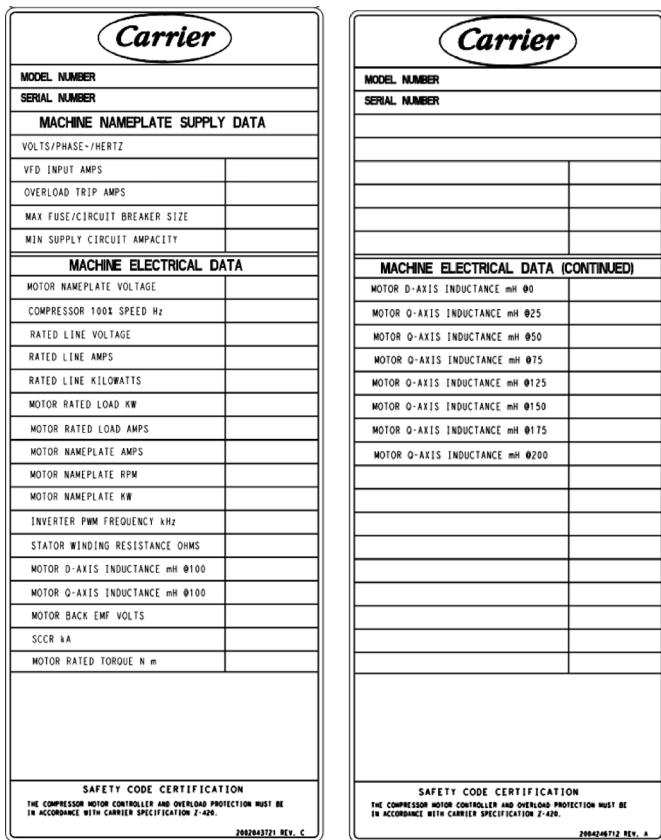

Fig. 11 — 19MV Nameplate
- From the machine nameplate (Fig. 11 or 12) located inside the VFD enclosure: